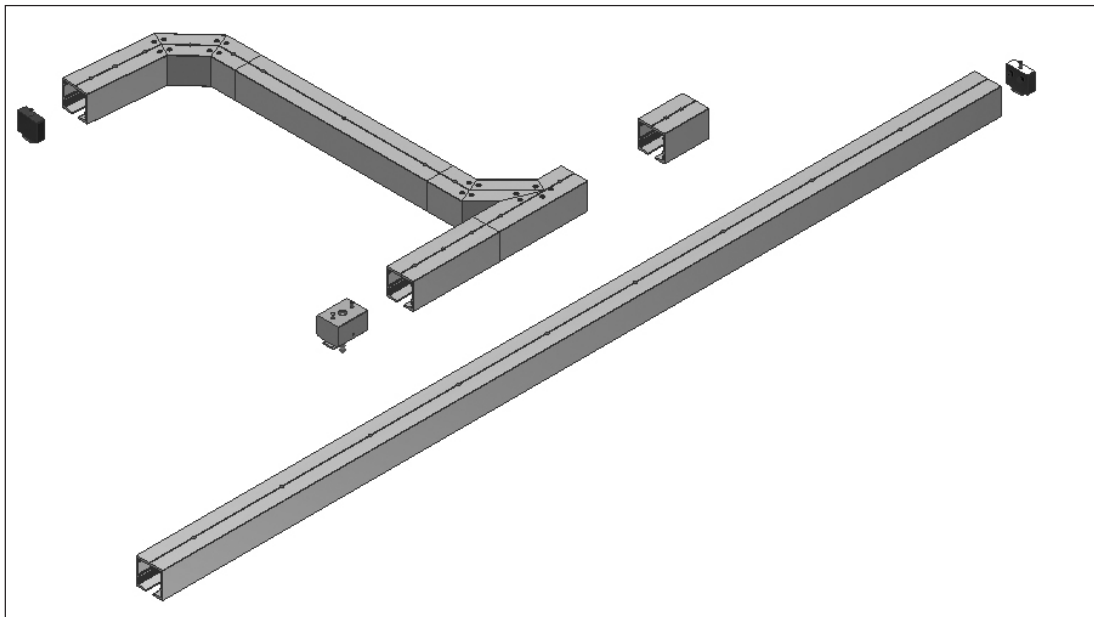

Figure 3
2. Position all Stops and Door Top Pivots in their approximate locations in the Track as detailed by the CPP (Fig 3). SPS Door Top Pivot and Adjustable Roller Stop final adjustments will be done in **Phase 2** after Track has been completely installed.